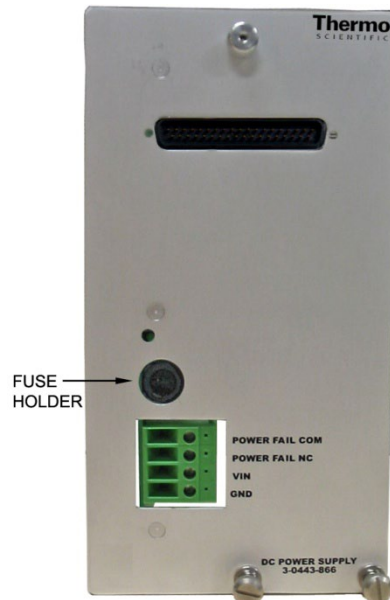

Figure 7-5. Location of fuse holder
3. Locate the fuse holder (see Figure 7-5 below). Insert the screwdriver into the fuse cap slot, and push the cap inward while turning counterclockwise until the holder pops out.
3. Locate the fuse holder (see Figure 7-5). Insert the screwdriver into the fuse cap slot, and push the cap inward while turning counterclockwise until the holder pops out.